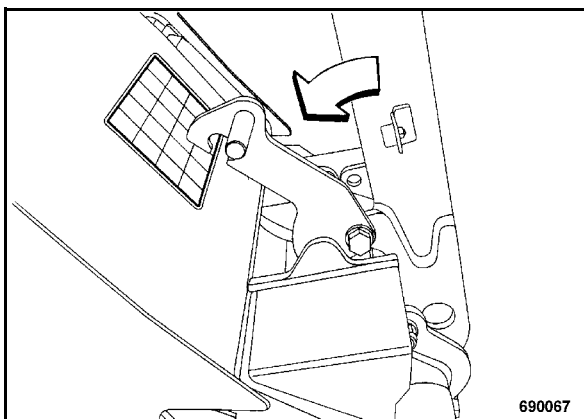

Fig. 39
- Adjust the steering rod upright and engage the locking lever (Fig. 39).